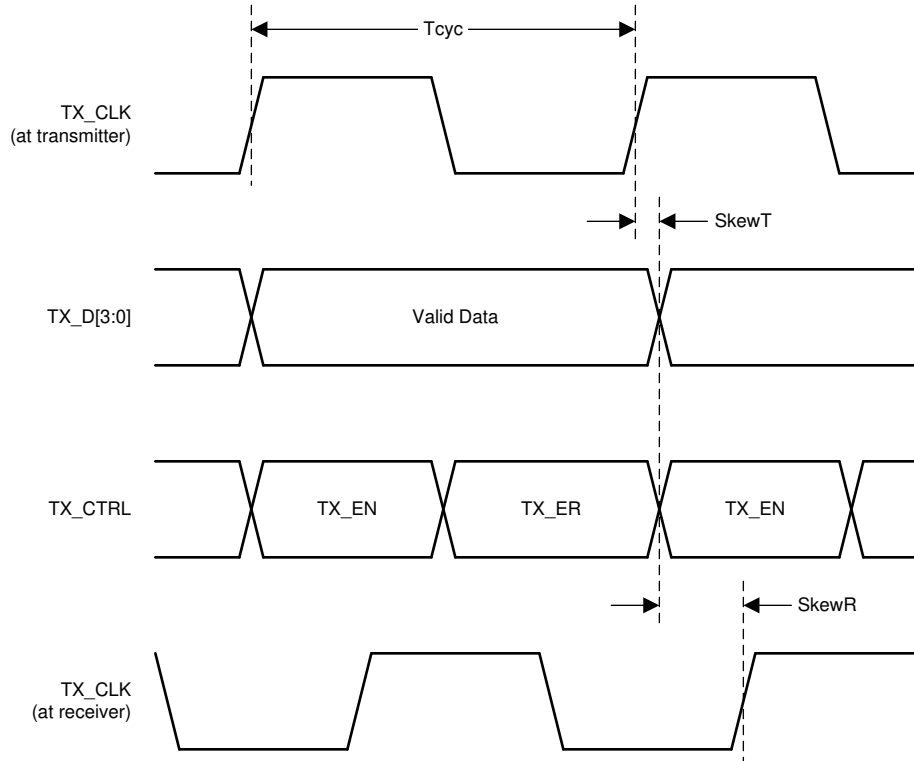
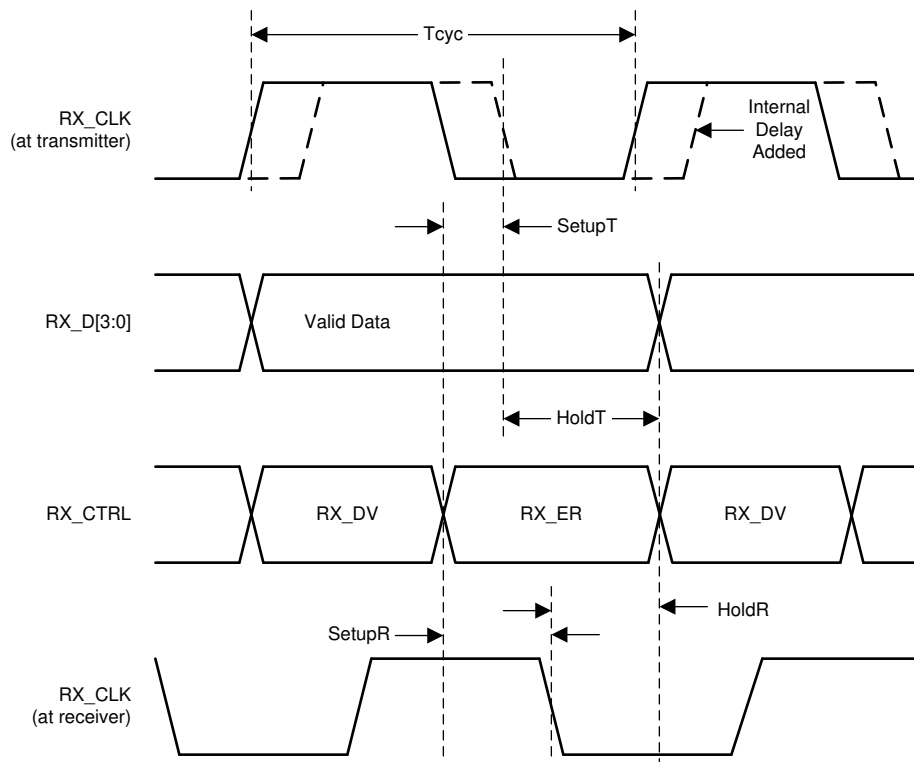

Figure 6-11. RGMII Transmit Timing
Figure 6-12. RGMII Receive Timing
- (1) Specified by production test, characterization or design.
(2) When operating without RGMII internal delay, the PCB design requires clocks to be routed such that an additional trace delay of greater than 1.5ns is added to the associated clock signal.
(3) Device can operate with or without internal delay.
(4) The duty cycle can be stretched or shrunk during speed changes or while transitioning to a received packet's clock domain as long as minimum duty cycle is not violated and stretching occurs for no more than three Tcyc of the lowest speed transitioned between.
(5) See Figure 6-11 and Figure 6-12.